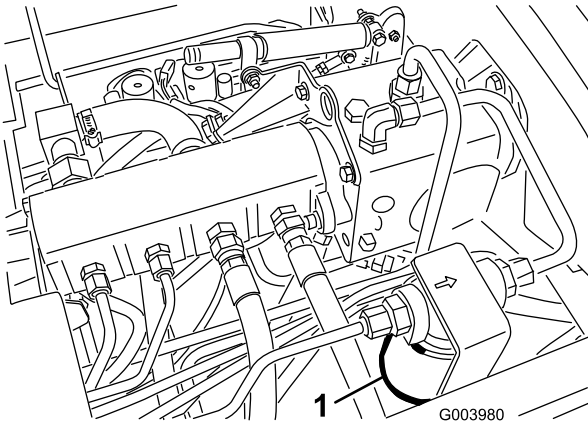
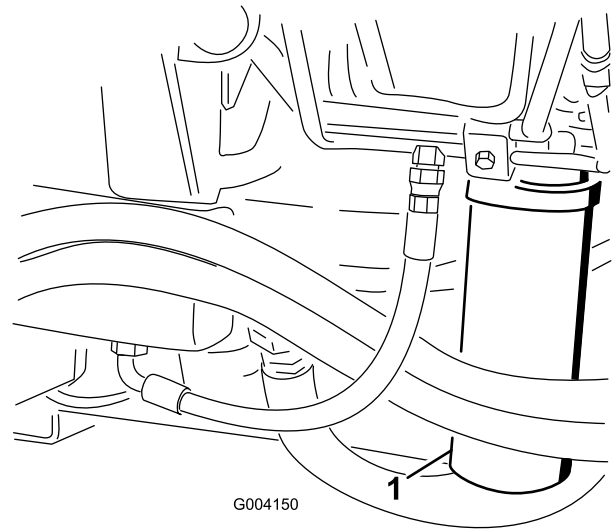

Figure 71
Figure 72
2. Clean the area around the filter mounting area and place a drain pan under filter (Figure 71 and Figure 72).